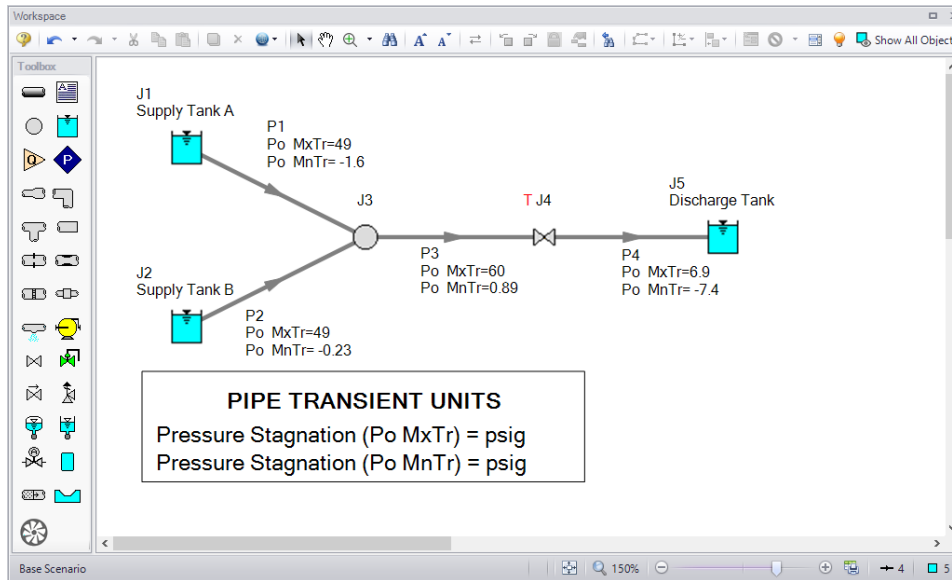

Figure 31: Results are superimposed on the model layout via Workspace Layers
- **Add additional clarity by repositioning the labels and adding a legend.** It is common for the text on the Workspace Layers to overlap with objects when first generated. Labels can be dragged to a new area or a smaller font can be selected using the Font Decrease icon on the Workspace Toolbar. Parameter units can be consolidated in a legend which can be added via the Global Layer Settings. In the Layers Toolbar, click the double gear icon to open the Global Layer Settings. Then, enable the checkbox for Show Units in Legend. The result of these adjustments is shown in Figure 31.